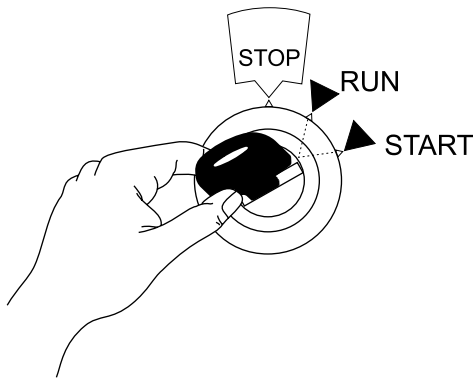

Figure 42. Starter Switch (Start Position)
1. Insert the ignition key (Figure 42) into the **starter switch** and turn the key clockwise to the **START** position.